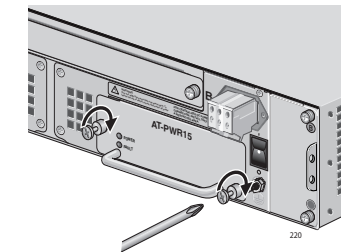

Figure 5. Securing the AT-PWR15 Module
5. Secure the AT-PWR15 module to the AT-CV5000 chassis by using a Phillips screwdriver to tighten the captive screws, as shown in Figure 5.